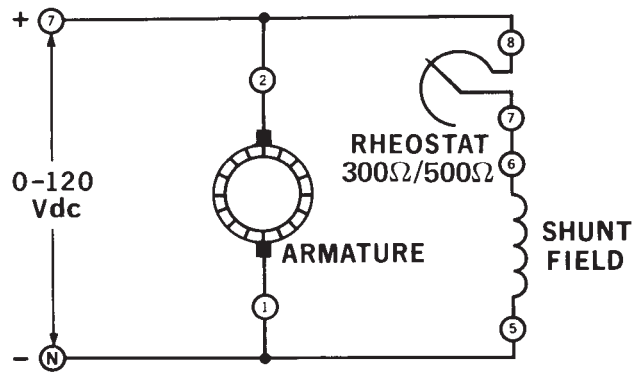

Figure 3-4.
12. Connect the circuit shown in Figure 3-4. Notice that the rheostat is in series with the shunt field, and that this combination is in parallel with the armature, across the input voltage.
- 16. Interchange the connection leads to the power supply. Your circuit should be the same as the one shown in Figure 3-4. Now reverse the connections to the armature only.